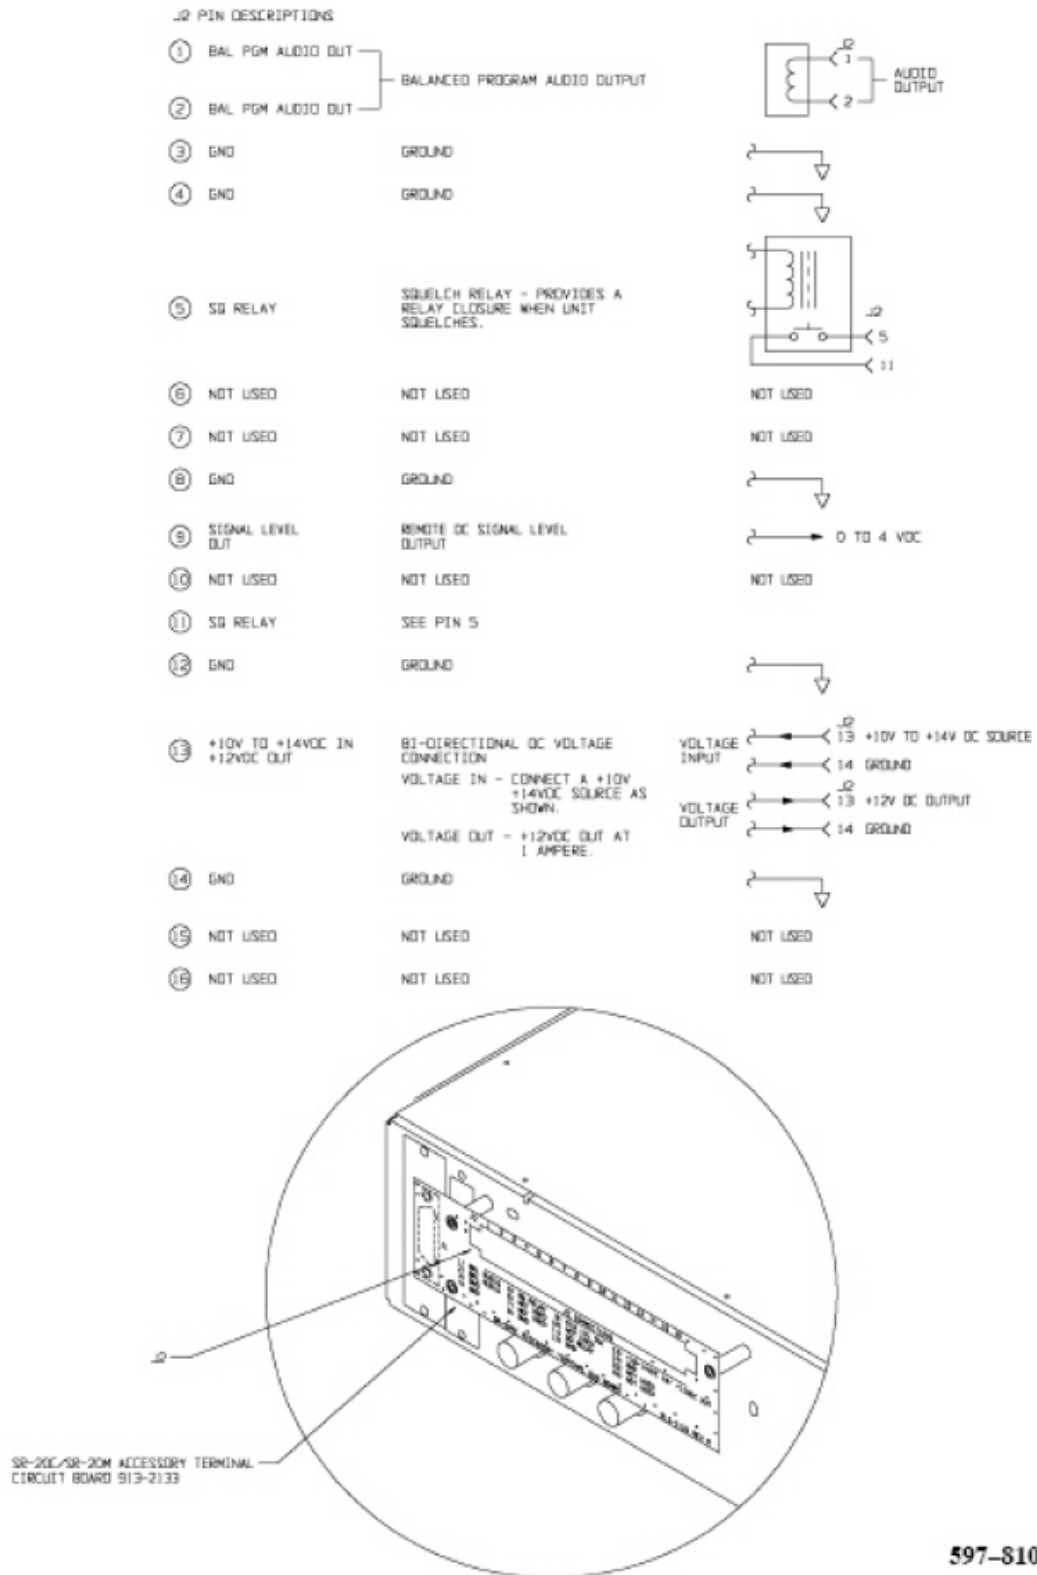

Figure 2-2: Accessory/Remote Connections
2. Balanced program audio output is located at accessory circuit board connector J2-1 and J2-2 (refer to Figure 2-2).
2. Balanced monophonic program audio output is located at accessory circuit board connector J2-1 and J2-2 (refer to Figure 2-2). The output level can be adjusted from -10 to +11 dBm. Connect shielded audio cable to J2-1 and J2-2. If unbalanced audio is desired, connect the cable between J2-1 (audio) and J2-3 (ground).
If dc operation is required, refer to Figure 2-2 and connect: 1) the positive wire to J2-13 and 2) ground to J2-14.